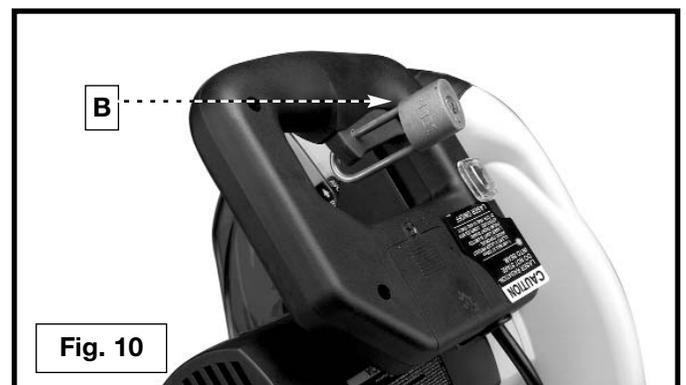

Fig. 10
⚠ WARNING When the machine is not in use, the switch should be locked in the “OFF” position, using a padlock (B) Fig. 10 with a 3/16" diameter shackle to prevent unauthorized use.